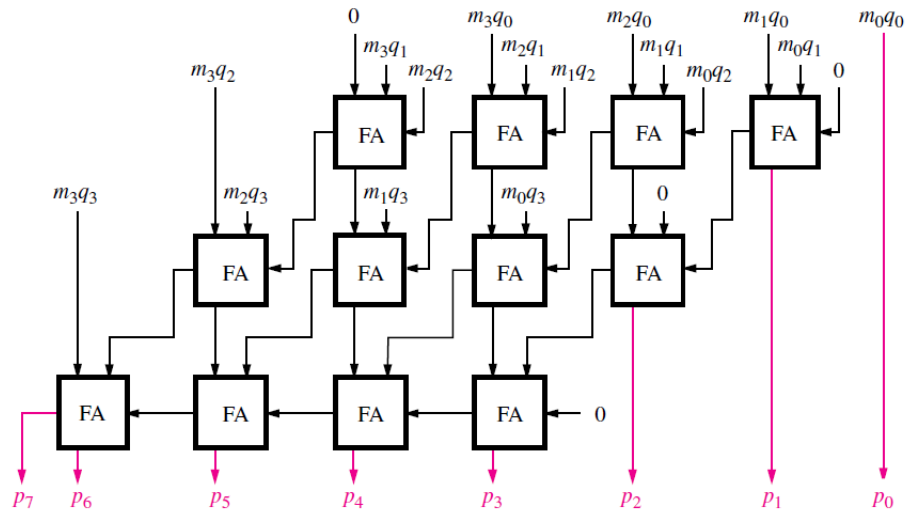

Figure 1: 4-bit Carry Save Multiplier
The carry save multiplier must be structural, however, the components of the multiplier do not have to be. Figure 1 shows a four-bit carry save multiplier. Note that the rightmost adder could be a half adder, as the carry in is set to zero. This multiplier functions in a similar way to humans performing multiplication with two decimal numbers on paper. In order to implement such a multiplier, consider using an array of `std_logic_vectors` to hold the intermediate results such as the results of the AND operation, sums, and carry outs. The use of the `+` and `*` operators is not allowed.
- A detailed description of how the multiplier was designed, complete with a diagram similar to, **but not the same as**, Figure 1.